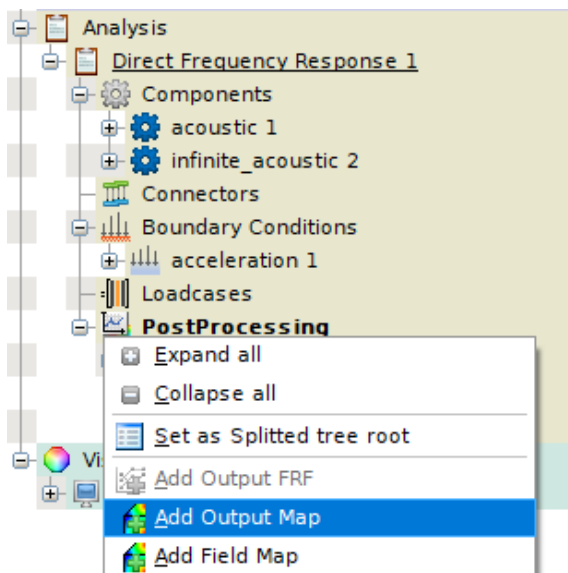

Figure 6.22: Create Output Map request
- Right-click on "PostProcessing" item and choose "Add Output Map" in the contextual menu (see Figure 6.22);